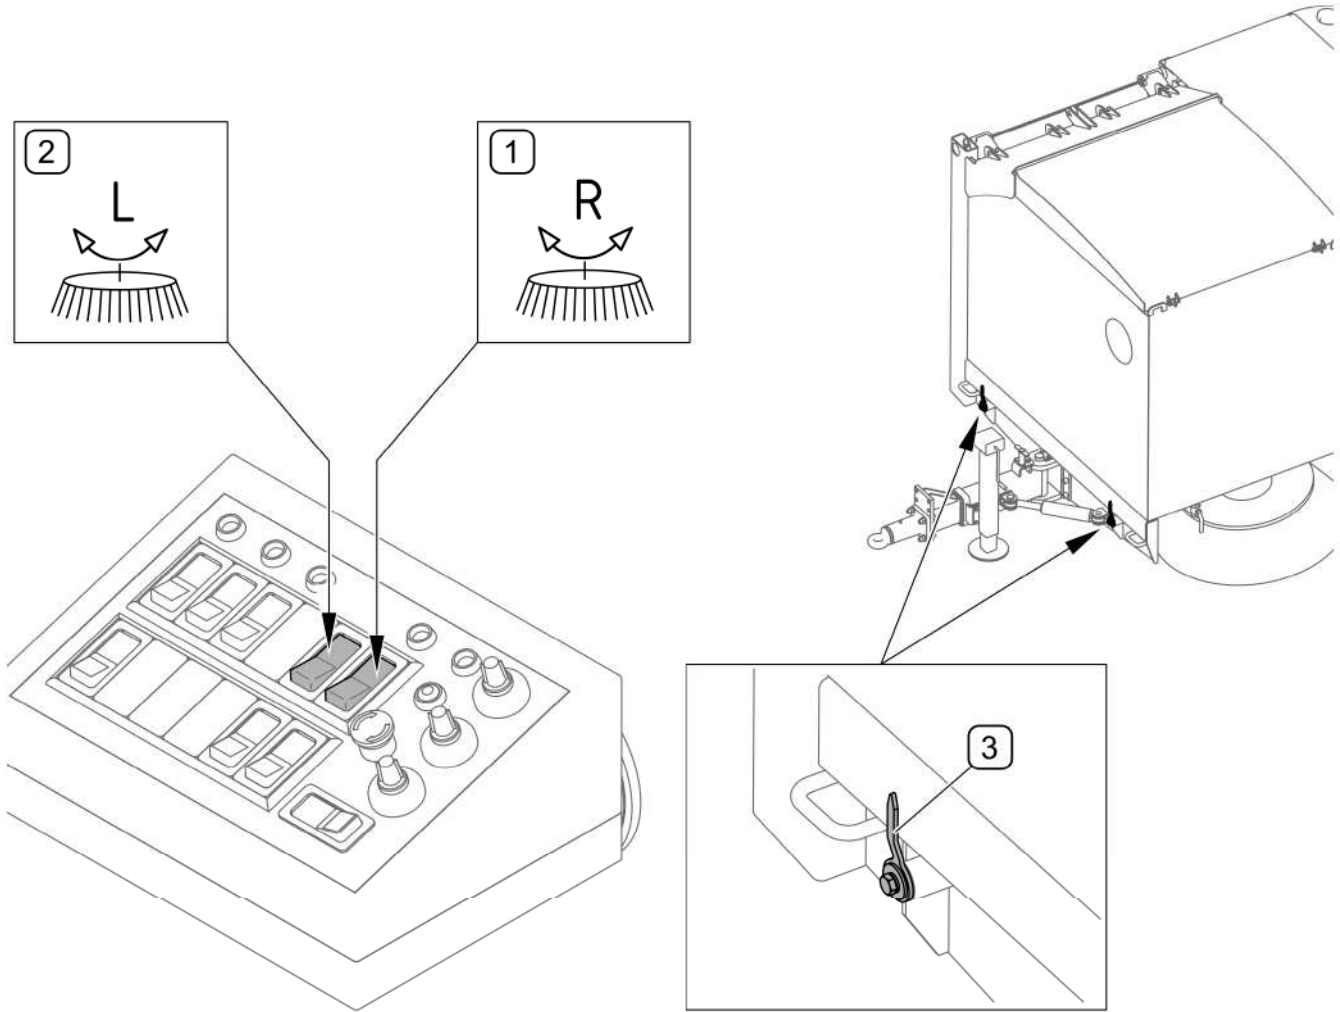

FIG. 5.3 Hydraulic adjustment of lateral inclination of brushes
(1) - control of right brush tilting; (2) - control of left brush tilting (option); (3) - indicator of lateral inclination of brushes
Adjustment of lateral inclination of the right brush and left brush (option) is carried out from operator cab by means of control panel (FIG. 5.3). Inclination of the right brush is changed by means of push-button (1). In the sweepers equipped with hydraulic adjustment of the left brush (option), the brush is inclined laterally by means of push-button (2) on the control panel. Indicators (3) located in the front section of the machine frame show current lateral inclination of brushes.